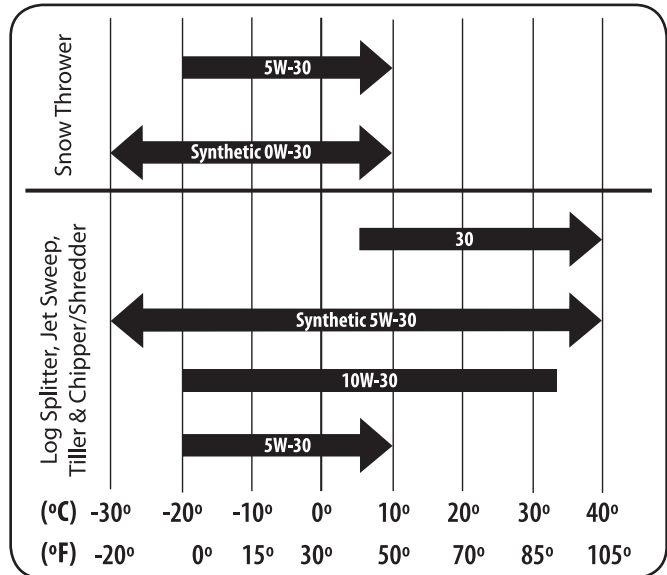

Figure 6-1
Refer to viscosity chart in Fig. 6-1 for oil recommendations. Do not over-fill. Use a 4-stroke, or an equivalent high detergent, premium quality motor oil certified to meet or exceed U.S. automobile manufacturer's requirements for service classification of a minimum level SF or SG (higher letter ratings are acceptable such as SJ, SL and SM grades). Motor oil will display this designation on the container.
12. Fill with the recommended Oil. See Fig. 6-1.